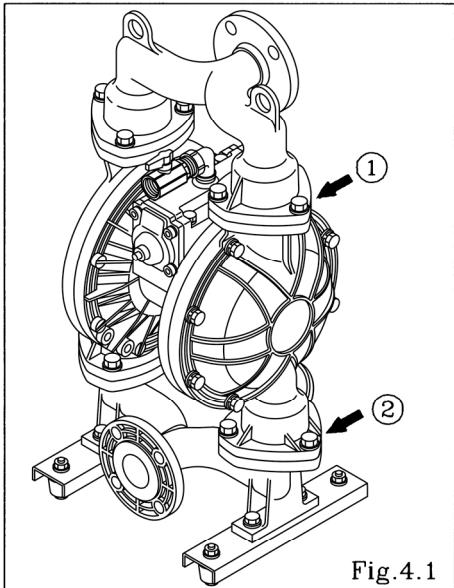

Fig.4.1
- Remove the 6 (8 on the NDP-80) retainer bolts “1” from the out manifold, and remove the out manifold. [Fig.4.1]
- Remove the 6 (8 on the NDP-80) retainer bolts “2” from the in manifold, and remove the in manifold. [Fig.4.1]